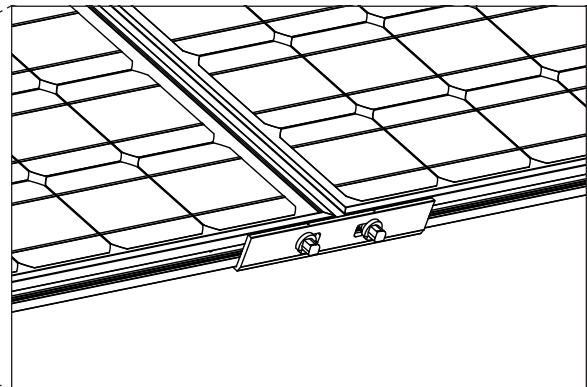

Figure 5.5B
2. Insert the Interlock Assembly in the bottom groove between the Module pair, spacing the Modules $\frac{1}{2}$ inch apart using the two outside alignment marks on the Interlock Assembly (Figure 5.5B).